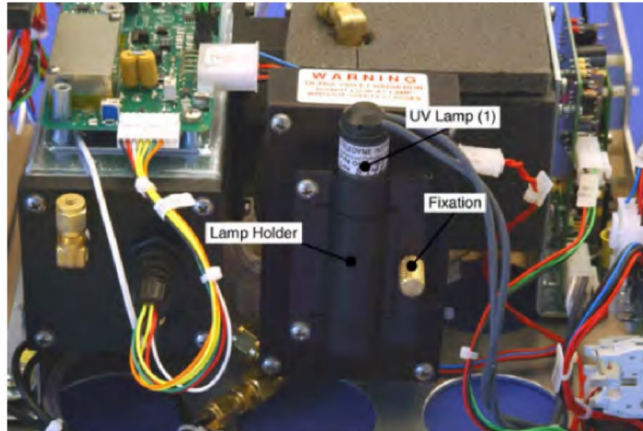

Figure 11.30.: Location of the UV lamp
3. Loosen the fixation (see Figure 11.30).